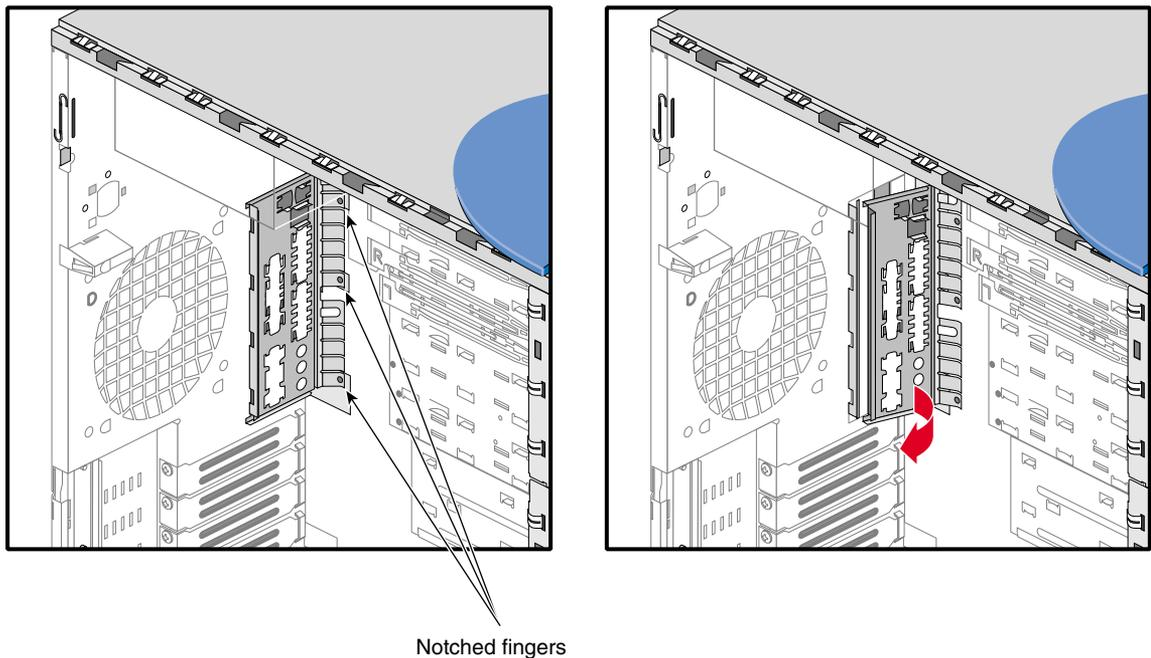

Figure 2-26 Removing I/O Panel Gasket
3. Locate the three notched fingers at the bottom of the I/O panel gasket, as shown in Figure 2-26.